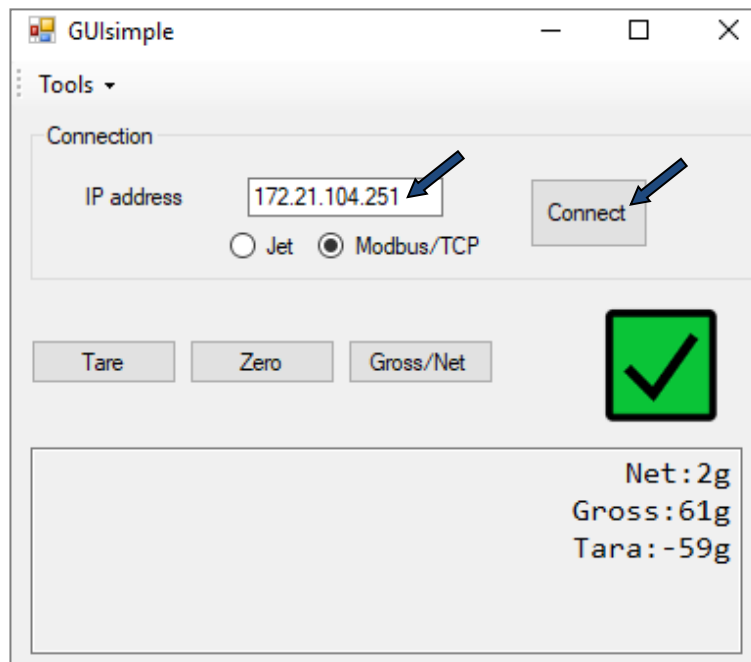

Figure 4.6: GUIsimple application window after connect.
- Now type in the IP address of your WTX terminal, choose Modbus/TCP or Jet and click Connect. This may take some seconds. If the connection has been established successfully, the window shown in Figure 4.6 appears.